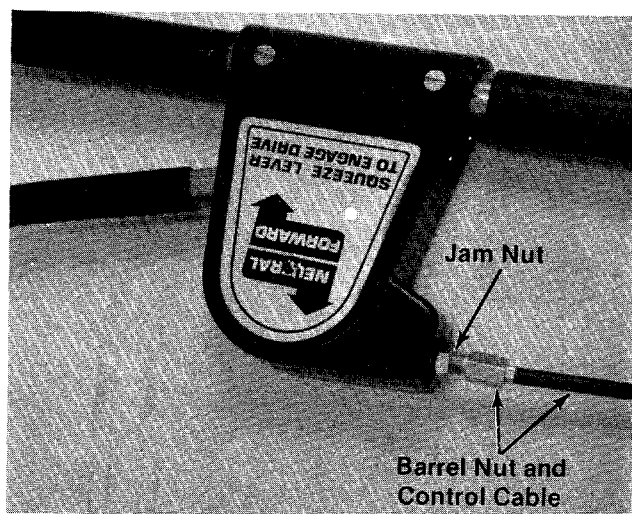

FIGURE 27
1. To increase belt tension, loosen jam nut and backoff two or three threads. (See figure 27.)
2. Thread the barrel nut on end of control cable outward two or three threads, and retighten jam nut. (See figure 27.)
3. To decrease belt tension, loosen jam nut and back off two or three threads. (See figure 27.)
4. Thread the barrel nut on end of control cable inward two or three threads, and retighten jam nut. (See figure 27.)